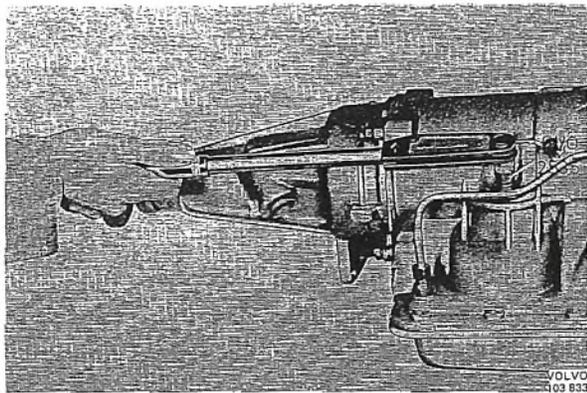

Fig. 4-66. Adjusting rear brake band
2. Use the special socket 2535 and connect the torque wrench to the adjusting screw, see Fig. 4-66. Tighten the screw to 14 Nm (10 lbft). Back off the adjusting screw one turn.